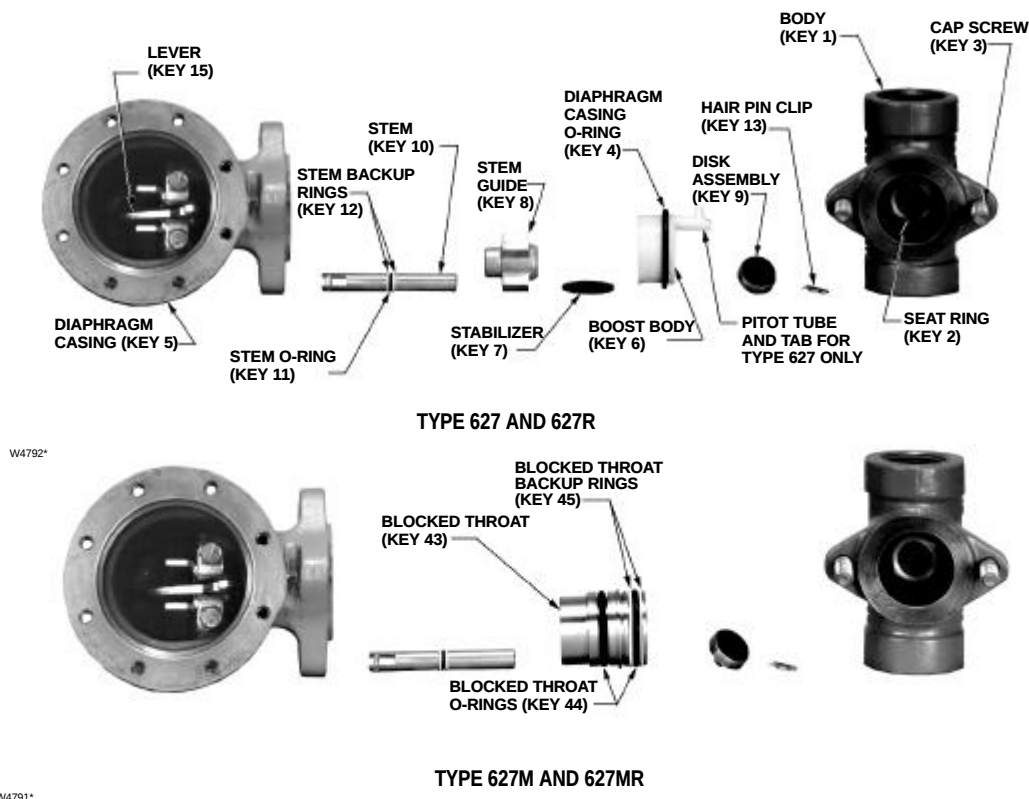
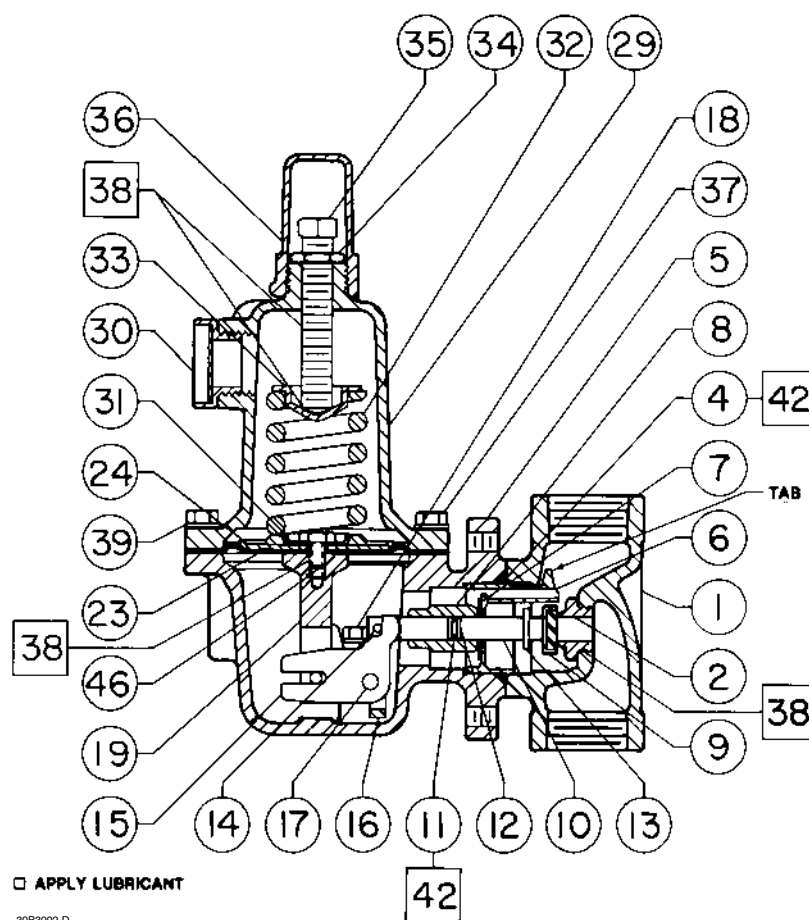

Figure 5. Stem Assemblies
Figure 7. Type 627 Regulator Components
While using the following procedures, refer to figures 7 through 12 for key number locations unless otherwise directed.
1. To inspect and replace the disk assembly (key 9) or seat ring (key 2), remove the cap screws (key 3, figure 5), and separate the diaphragm casing (key 5) from the body (key 1).
2. Inspect and, if necessary, remove the seat ring (key 2). If removed, coat the threads of the replacement seat ring with lubricant (key 38) and torque to 25 foot-pounds (34 NSm).
3. Inspect the disk assembly and, if necessary, remove the hair pin clip (key 13) that holds the disk assembly (key 9) in place. If replacing the disk assembly is the only maintenance required, skip to step 16.
4. For Type 627, 627H, and 627R regulators (figure 5), use steps 5 through 8 to remove and replace the stem assembly.
5. Remove the boost body (key 6), stabilizer (key 7), and stem guide (key 8) from the diaphragm casing (key 5). Unhook and remove the stem (key 10) from the diaphragm casing (key 5).
6. Remove and inspect the diaphragm casing O-ring (key 4, figure 7, 8, or 11) and replace it if necessary.
7. Apply lubricant (key 42) to a replacement diaphragm casing O-ring (key 4, figure 7, 8, or 11) and install it onto the boost body (key 6). Skip to step 14.
8. For the Type 627 or 627H regulators, be sure to insert the pitot tube (tab) into the outlet side of the body (see figure 7 or 11). Skip to step 14.
9. For Type 627M, 627HM, and 627MR regulators (figure 5), use steps 10 through 14 to remove and replace the stem assembly.
10. To remove the blocked throat (key 43), insert a screw driver blade into the groove provided in the throat and pry it out of the diaphragm casing (key 5). Inspect and replace parts as necessary.
11. Inspect and, if necessary, replace the blocked throat O-rings (key 44, figure 5) and backup rings (key 45, figure 5).
12. Apply lubricant (key 42) to replacement blocked throat O-rings (key 44) and backup rings (key 45).
13. Apply lubricant (key 42) to the replacement stem O-ring (key 11) and stem backup rings (key 12) and install them on the stem (key 10).
14. For assembly, insert the stem (key 10) into the diaphragm casing (key 5) and hook it on the lever (key 15).
15. Insert parts into the diaphragm casing (key 5) that were removed in steps 5 and 6 or step 10 (see figure 5).
16. Install the the disk assembly (key 9), line up the hole in the disk assembly and stem (key 10) and insert the hair pin clip (key 13).
17. Position the diaphragm casing plus attached parts in relation to the body (key 1) so that they are correct for the application.
18. Secure the diaphragm casing to the body with the cap screws (key 3, figure 5). For an aluminum diaphragm casing (key 5), torque the cap screws (key 3) to 16 foot-pounds (22 N $\cdot$ m). For ductile iron or steel diaphragm casings, torque the cap screws (key 3) to 25 foot-pounds (34 N $\cdot$ m).
6. For Type 627, 627H, 627M, and 627HM regulators (figures 5 & 6), use steps 7 through 11 to disassemble and reassemble the diaphragm assembly.
7. Remove the diaphragm head cap screw (key 46), lower spring seat (key 31, Type 627 or 627M only), and diaphragm head (key 24). On the Type 627H or 627HM, remove the diaphragm cap screw O-rings (key 52). Separate the diaphragm (key 23) from the pusher post (key 19).
8. Install the diaphragm (key 23), in reverse order in step 7, on the pusher post (key 19), insert and finger tighten the diaphragm head cap screw (key 46).
9. Hook the pusher post on the lever (key 15), then turn the diaphragm (key 23) to match the holes in the diaphragm with the holes in the spring casing.
10. Unhook the pusher post from the lever and torque the diaphragm head cap screw (key 46) to 7 foot-pounds (9 NSm) for the Type 627 or 627M. On the Type 627H or 627HM torque the diaphragm head cap screw to 14 foot-pounds (18 NSm).
11. Hook the pusher post on the lever (key 15) and check the hole alignment. If necessary, loosen the cap screw (key 46) and reposition the diaphragm (key 23) on the pusher post (key 19). Retorque the screw (see step 10). Skip to step 20.
When corresponding with your Fisher sales office or sales representative about this regulator, always reference the type number which is found on the nameplate (key 39, figures 7 through 12).